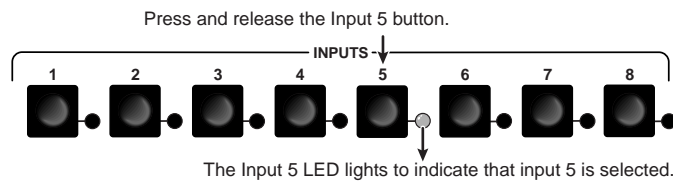

Figure 3-5 — Select an input
2. Press and release the Input 5 button (figure 3-5).